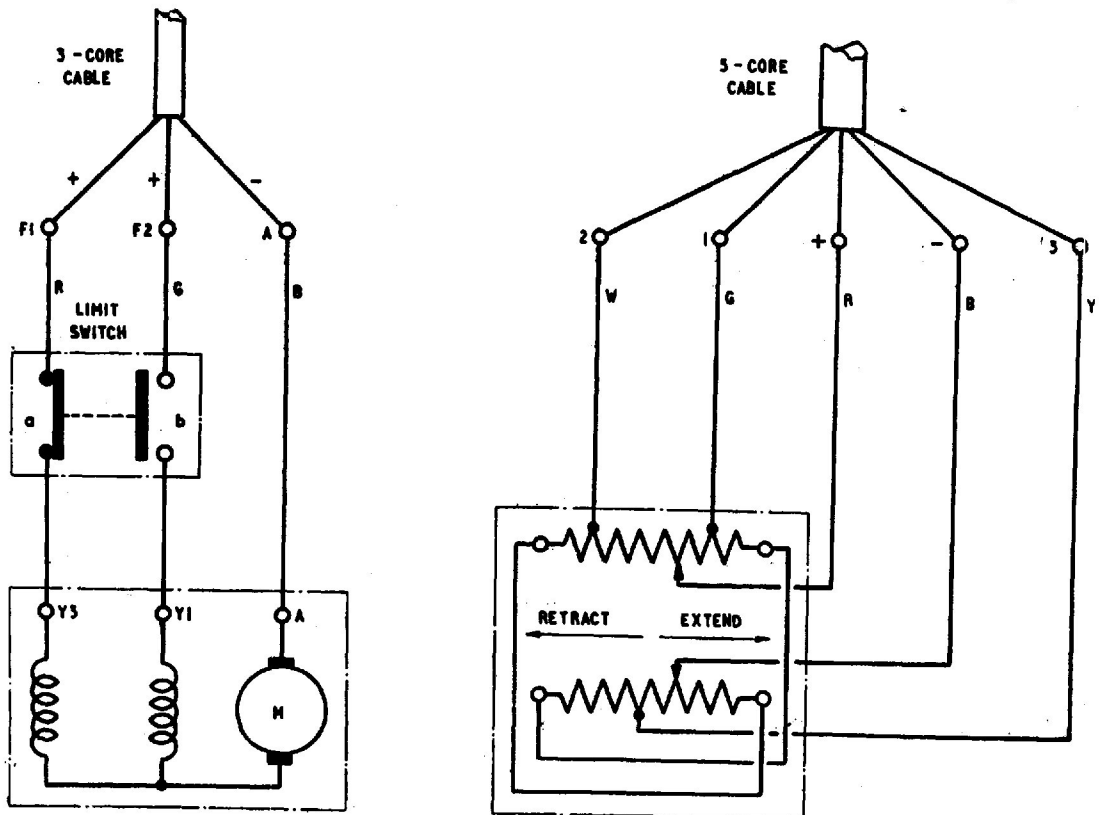

Fig. 7. Circuit diagram
73. Fit the clamping plate around the actuator body extension and over the two 6 B.A. studs, and secure the transmitter unit with the two 6 B.A. lock-nuts. Make all terminal connections at the transmitter unit, as shown in the wiring diagram (fig. 7).